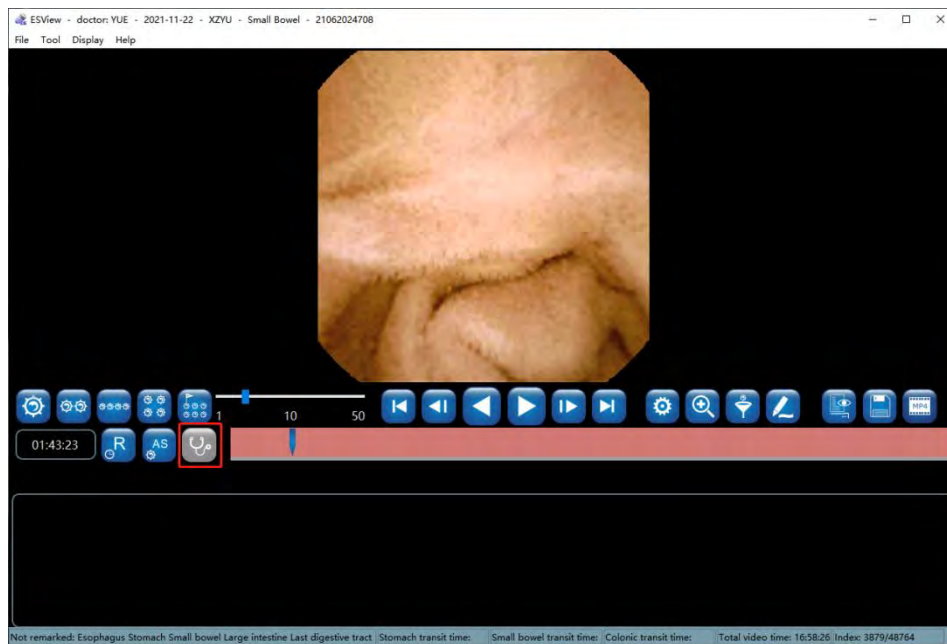

Figure 4-45: NaviCam ProScan function is enabled
1. If the NaviCam ProScan function is not enabled, there will be no ProScan icon displayed on the main interface of ESView. If the NaviCam ProScan function is enabled but the data has not been automatically identified and processed by ProScan, the ProScan icon displayed by "File" -> "Open Video" to open the data will be displayed. It is gray, as shown in Figure 4-45. Only after the above three conditions are met, the ProScan icon displayed by opening the data will turn blue;